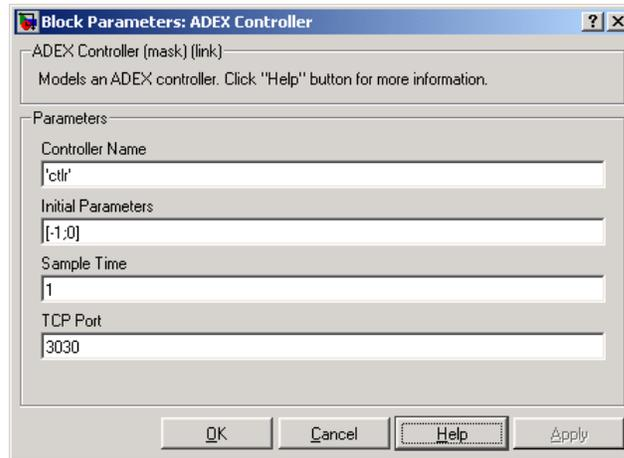

FIGURE 9. CONTROLLER MASK
Double clicking on the diagram of the scheme, the mask of the block will appear (Figure 9). This represents the interface between the controller and the default values. In this way, the values characterizing the block are entered.
- **Controller Name:** This is the name used to create the controller and it will manipulate an archive CLR which stores the controller status in memory. In addition, it will identify the block for the other two modules as well as for ADEX COP 2 Configurator. Using *MATLAB*, it will be defined between single commas '...' (See Figure 9).